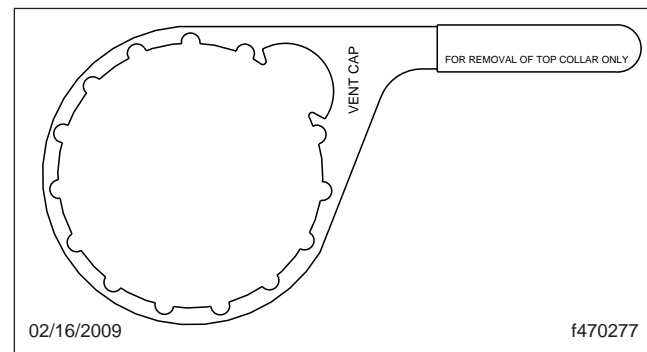

Fig. 10, Davco Filter Collar Wrench (Davco P/N 380134)
2. Remove the filter collar using the Davco filter collar wrench. See Fig. 10.